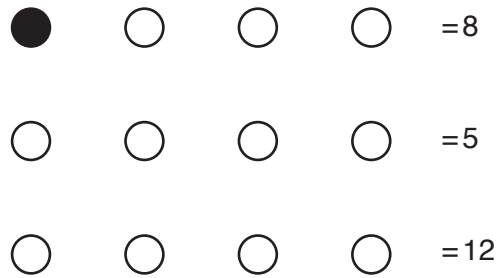

Fig. 8
- (b) Fig. 8 shows the outlines of three rows of LEDs used to represent numbers in binary. The first row represents the number 8.
- (i) Shade in the LED outlines in Fig. 8 to show how the other two numbers are represented in binary. [2]